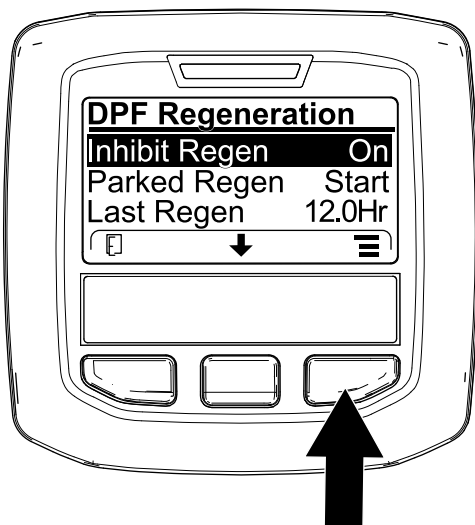
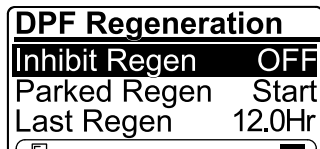

Figure 39
Figure 40
1. Access the DPF Regeneration menu, press the center button to scroll down to the INHIBIT REGEN option, and press the right button to select the Inhibit Regen entry (Figure 39).
2. Press the right button to change the inhibit regeneration setting from On to Off (Figure 39) or from Off to On (Figure 40).